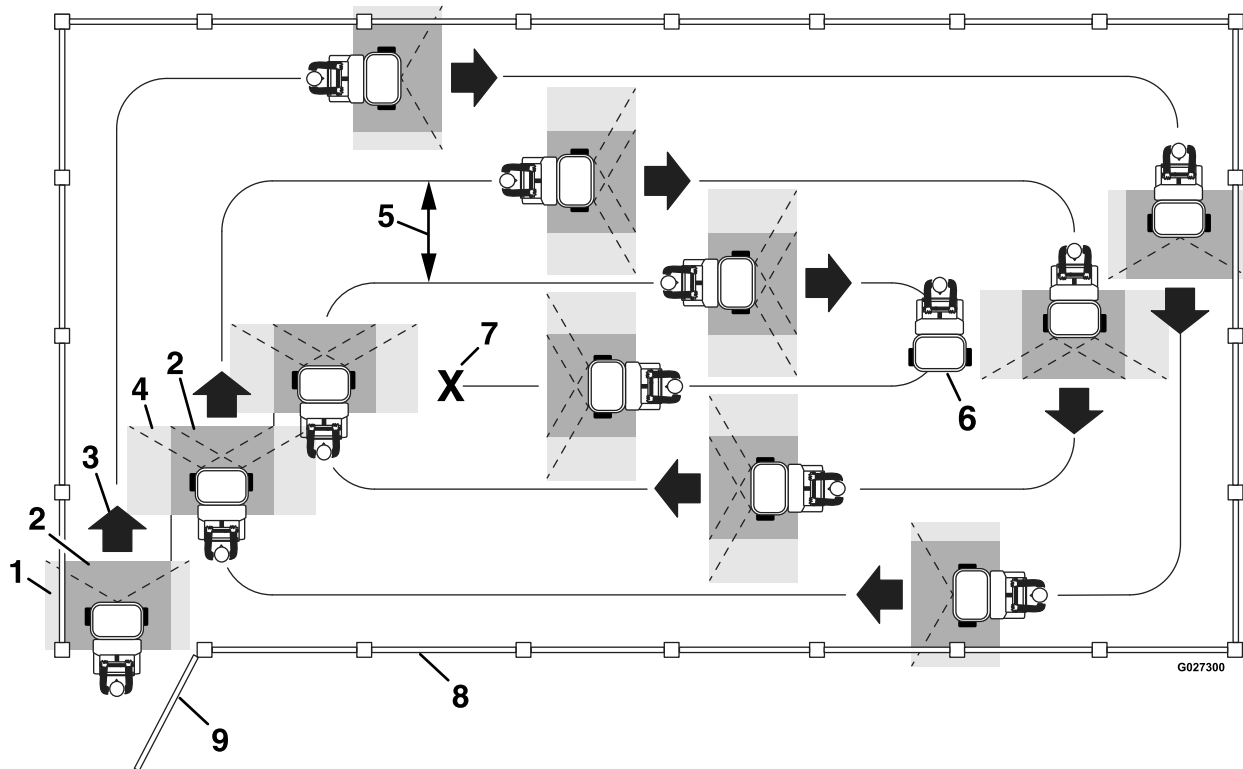

Figure 58
- Do not overlap the effective spray area that you have previously sprayed (see Figure 58).